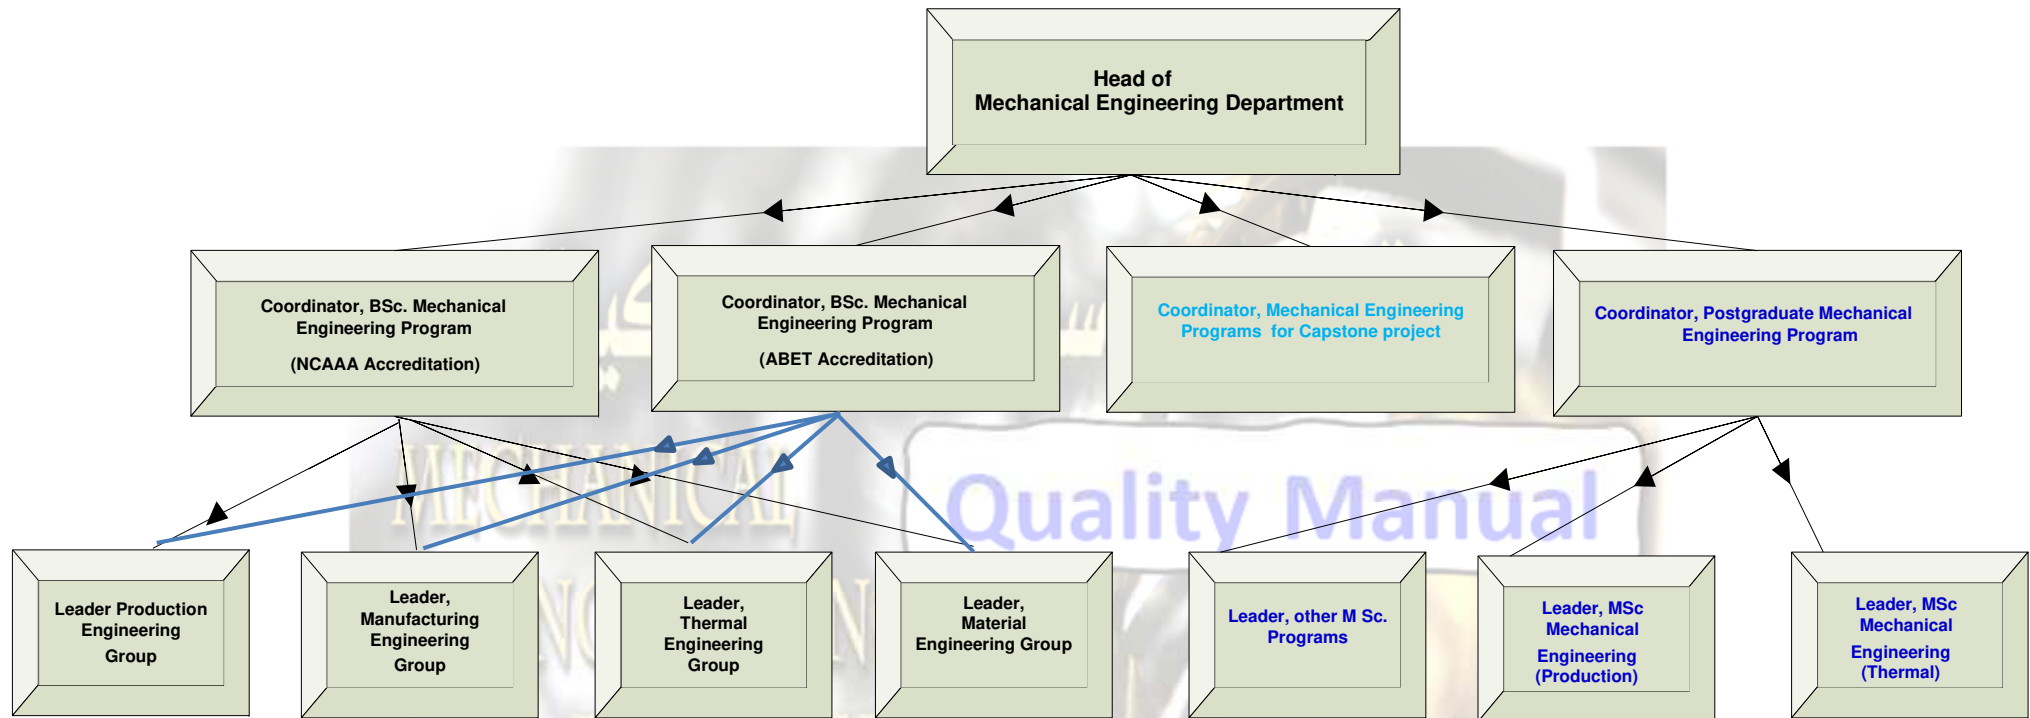

Figure 2- Program Coordinator Structure for Quality Assurance
The Department is organized such that there are four (4) Program Coordinators covering the undergraduate and postgraduate programs. Figure 2 outlines this structure.